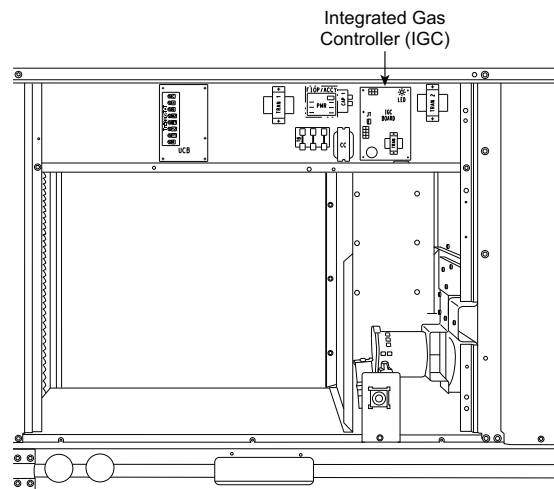
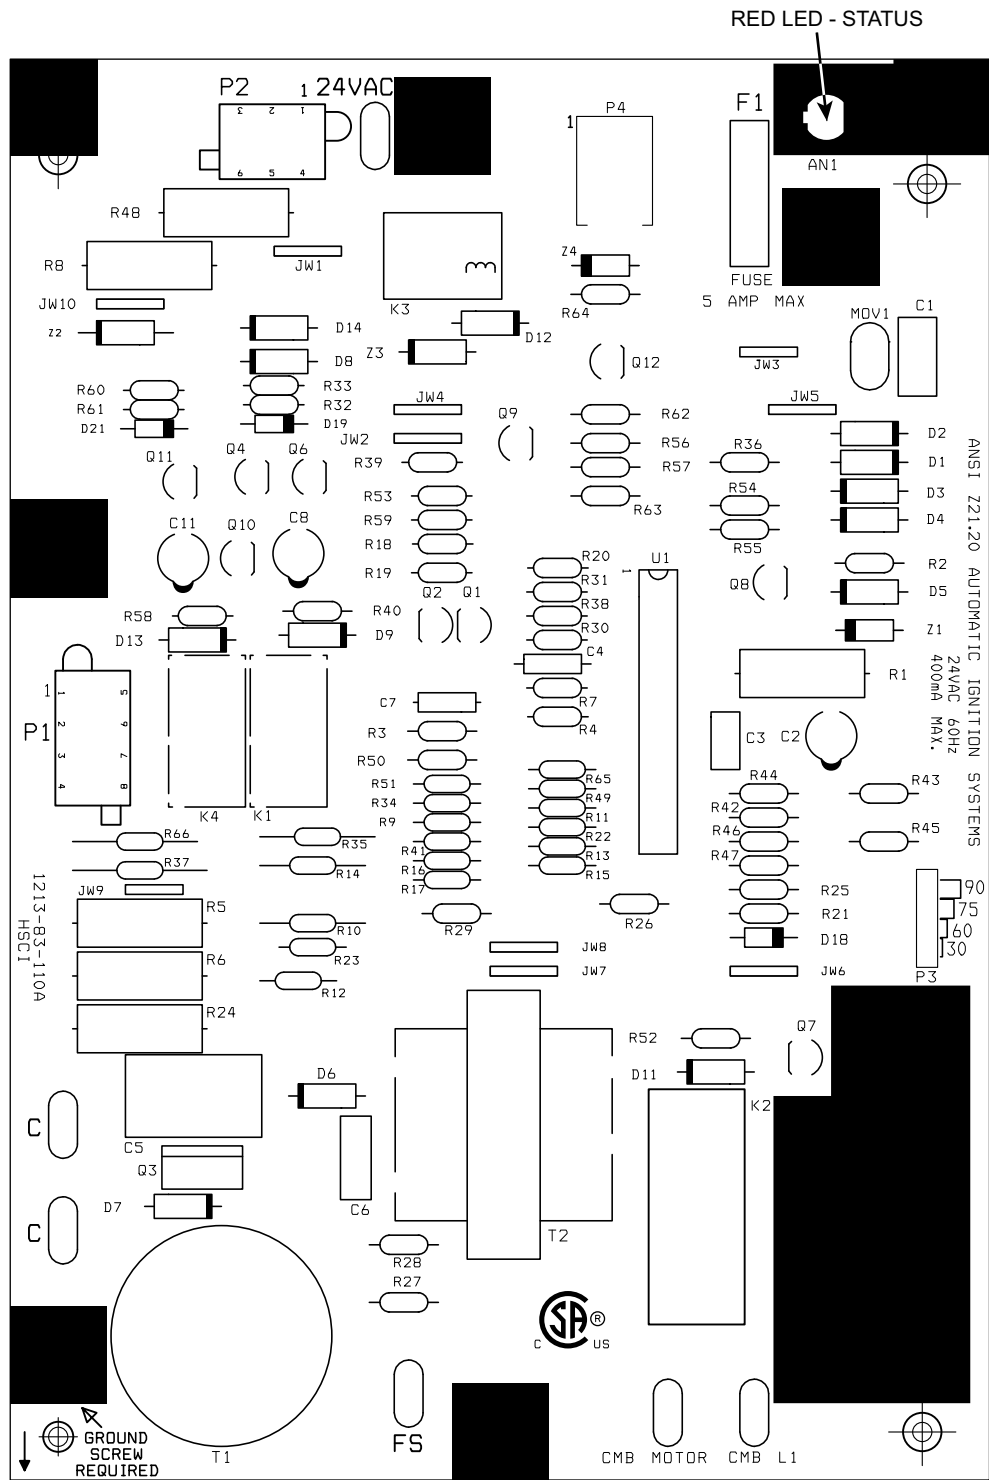

Fig. 57 — Unit Control Box/IGC Location
Fig. 60 — Integrated Gas Control (IGC) Board
8. Remove igniter wires and sensor wires at the Integrated Gas Unit Controller (IGC). (See Fig. 57.)
Unit is equipped with a direct spark ignition 100% lockout system. The Integrated Gas Unit Controller (IGC) is located in the control box (see Fig. 57). The IGC contains a self-diagnostic LED (light-emitting diode). A single LED (see Fig. 60) on the